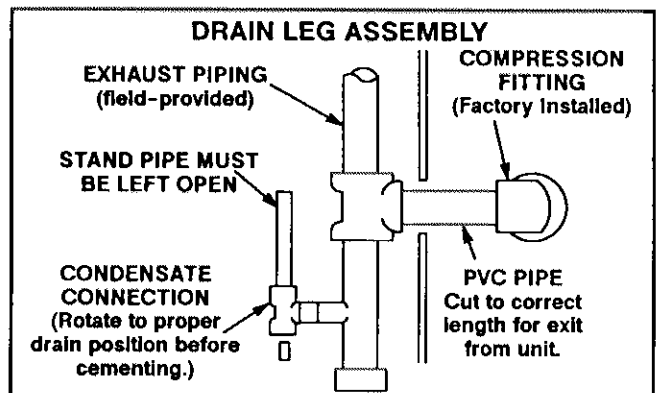

FIGURE 11
- 4- Cement drain leg assembly to PVC pipe as shown in figure 11.